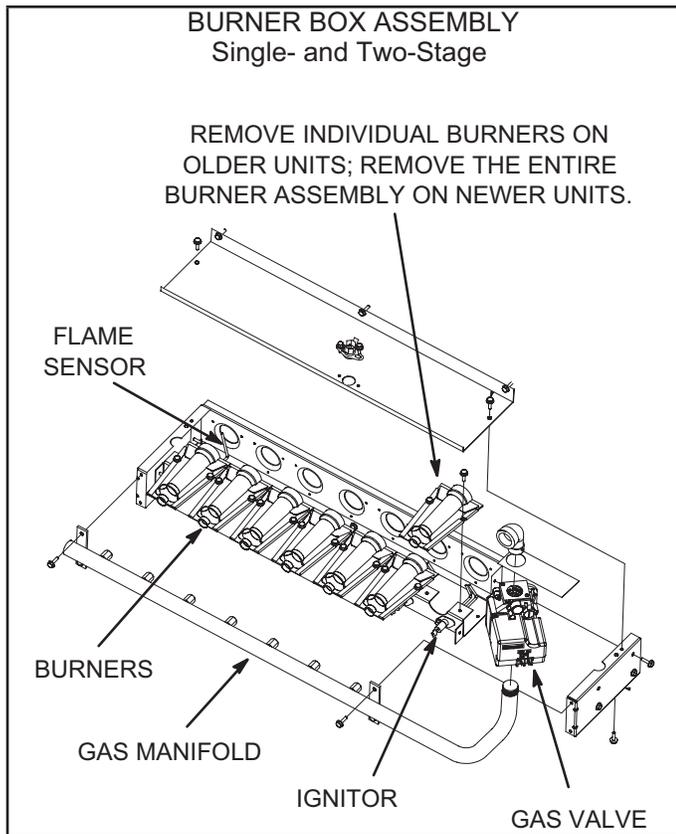
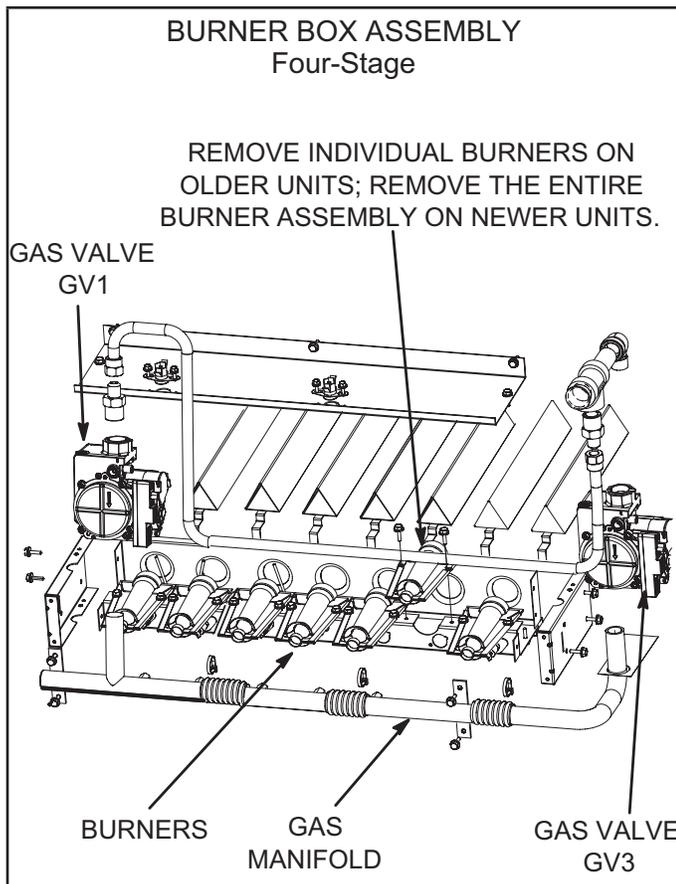

FIGURE 28
FIGURE 29
- 4 - Remove screws securing burners to burner support and lift the individual burners or the entire burner assembly from the orifices. See FIGURE 28 or FIGURE 29. Clean as necessary.